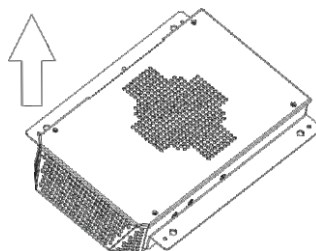

Figure 6.39 Schematic diagram of plasma module maintenance step 2
- (3) Take out the outer cover to expose the plasma module, as shown in Figure 6.39.